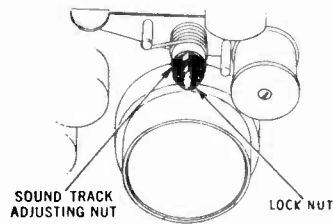

Fig. 10 - PRESSURE ROLLER ADJUSTING SCREWS.
- (b) If the high-pitched note is heard, then the pressure roller must be moved out, if the low-pitched note is heard, then it must be moved in. Usually it is best to move the roller assembly back and forth so that both notes are heard and then lock the assembly half way between. See Figures 10 and 11.
(5) ADJUSTMENT OF FILM GATE